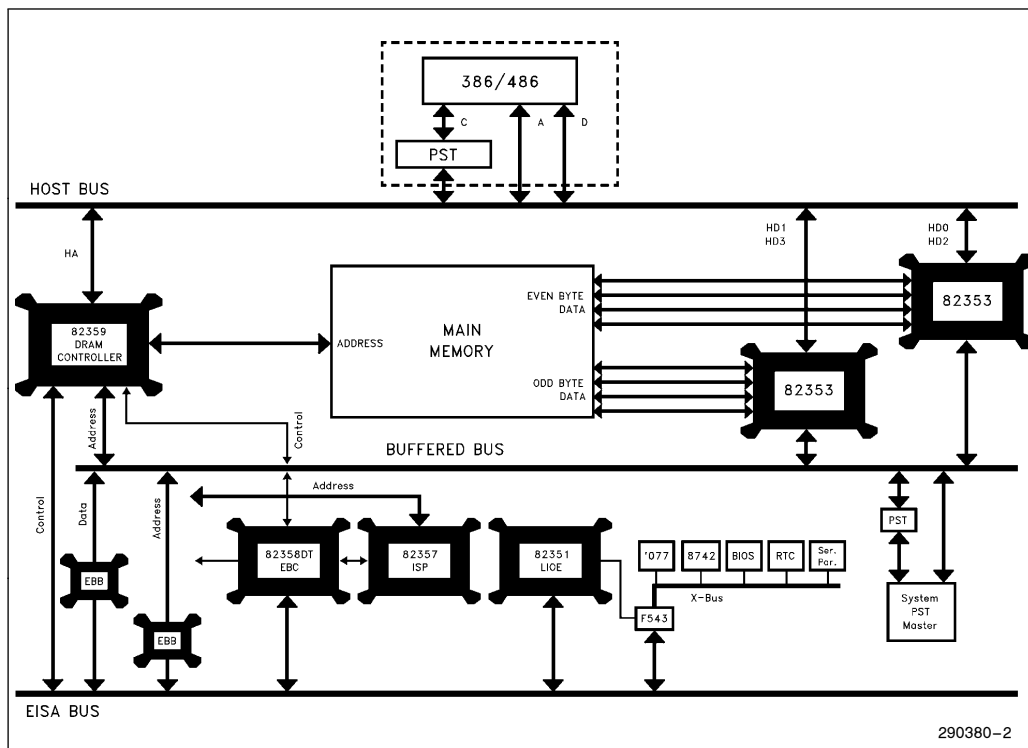

Figure 2-3. 82350DT System Environment (Buffered Configuration)
**82350DT/BUFFERED** - The 82350DT system environment selected for a buffered configuration (refer to Figure 2-3 and section 4.1).
**BUFFERED BUS** - An additional bus that is provided in 82350DT buffered system environments for supplemental motherboard I/O devices (refer to Figure 2-3). This bus is transparent to the 82358DT. Peripheral devices on this bus are treated as host devices. In the context of this document, the host bus and buffered bus are referred to as one in the same: the host bus.